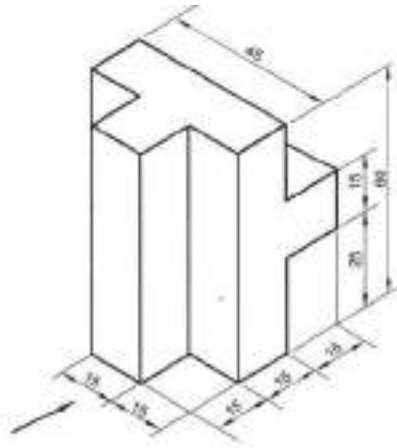

Fig: 1
5. The pictorial view of a component is given in Fig: 1. Draw its front view and right side view.